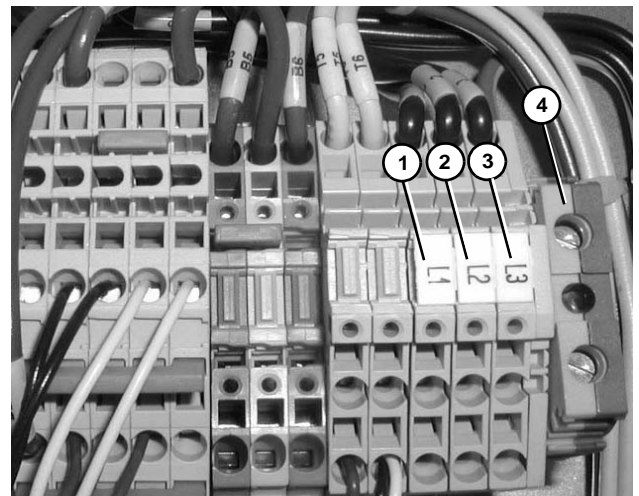

Figure 9
1. Make the input power connections through the line connection cord grip. Refer to Figure 9 for terminations inside the VFD controller. L1 = item 1, L2 = item 2, L3 = item 3 and Ground = item 4.